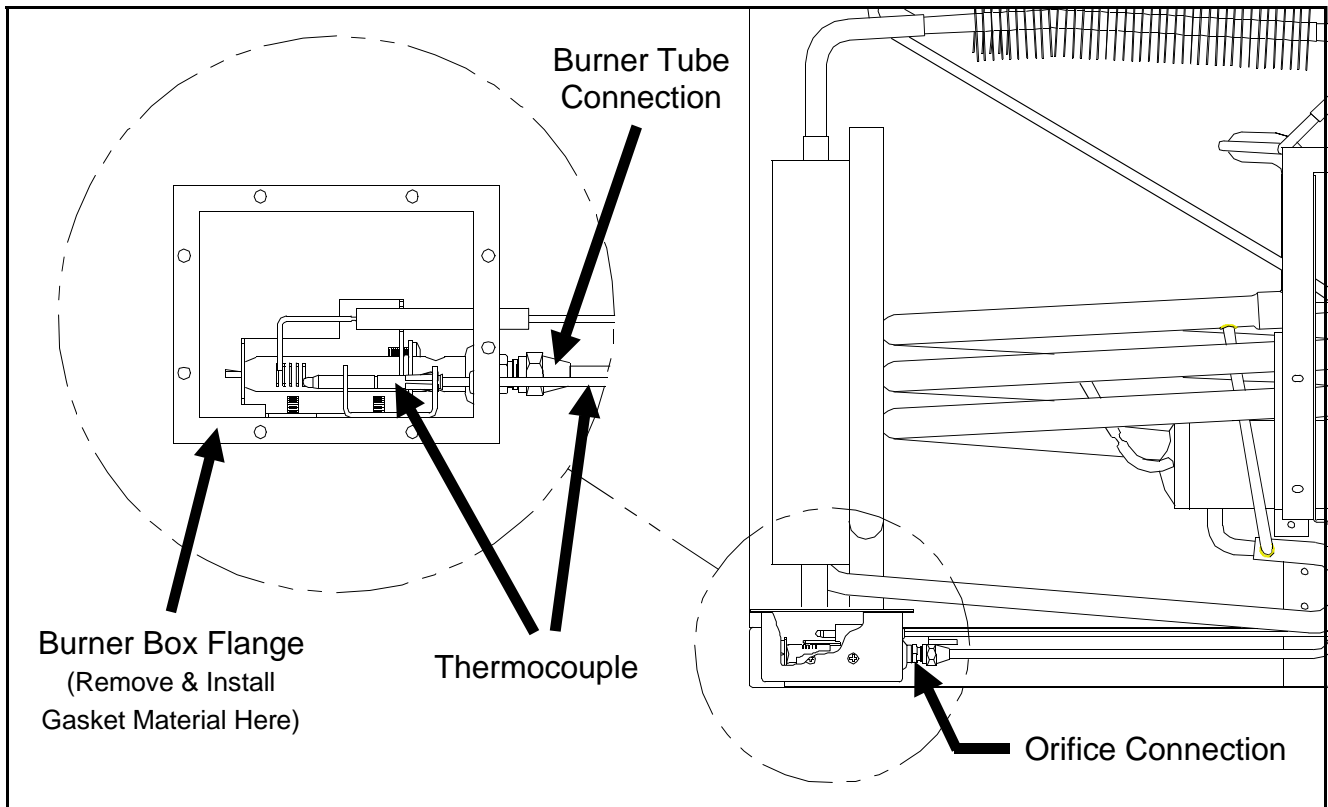

Figure 6 - View of Burner Box
Burner Orifice (Rialta and Eurovan Camper) - Reference Figure 6
Burner Box Gasket Installation and Thermocouple Alignment (Rialta and Eurovan Camper) - Reference Figure 6
9. Push the thermocouple into the burner box. The thermocouple tip must be positioned over the first slot of the burner as illustrated in Figure 6 on page 6.